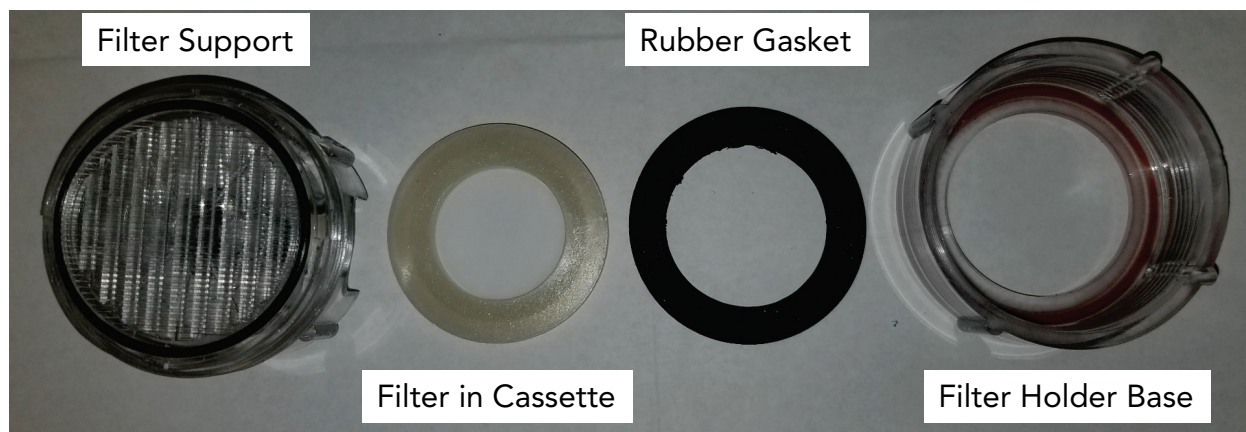

Figure 4. Filter Holder Disassembled
- c. Once separated the filter cassette can be removed and placed into its transport container. See Figure 4 for reference.